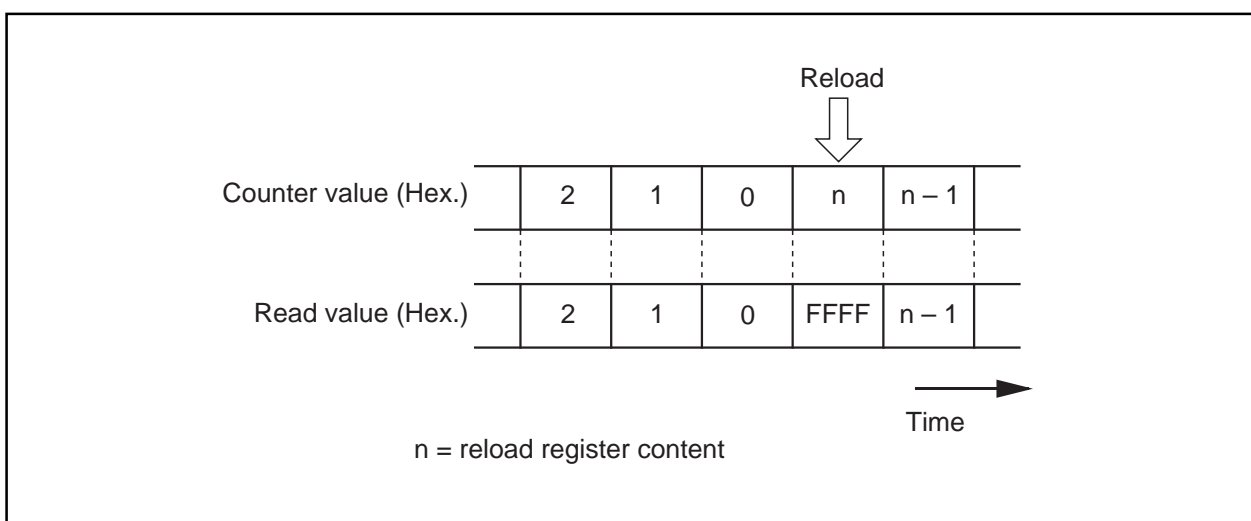

Figure 2.3.12. Reading timer Bi register
- (1) To clear reset, the count start flag is set to “0”. Set a value in the timer Bi register, then set the flag to “1”.
- (2) Reading the timer Bi register while a count is in progress allows reading, with arbitrary timing, the value of the counter. Reading the timer Bi register with the reload timing shown in Figure 2.3.12 gets “FFFF₁₆”. Reading the timer Bi register after setting a value in the timer Bi register with a count halted but before the counter starts counting gets a proper value.